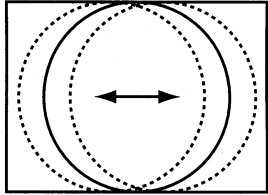

Fig. 1
- Adjust the horizontal location to obtain picture centering (fig. 1)